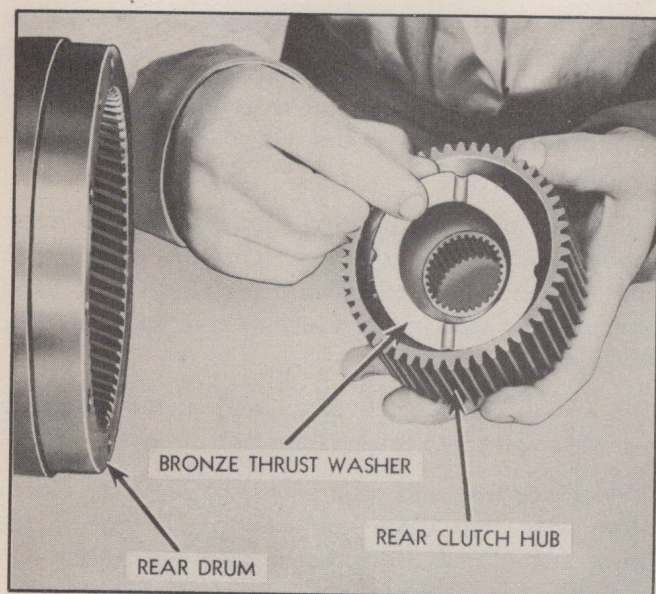

Fig. 251—Installing Rear Clutch Hub Front Thrust Washer
13. Install front bronze thrust washer into deep counterbore in rear clutch hub and retain with petrolatum (Fig. 251).